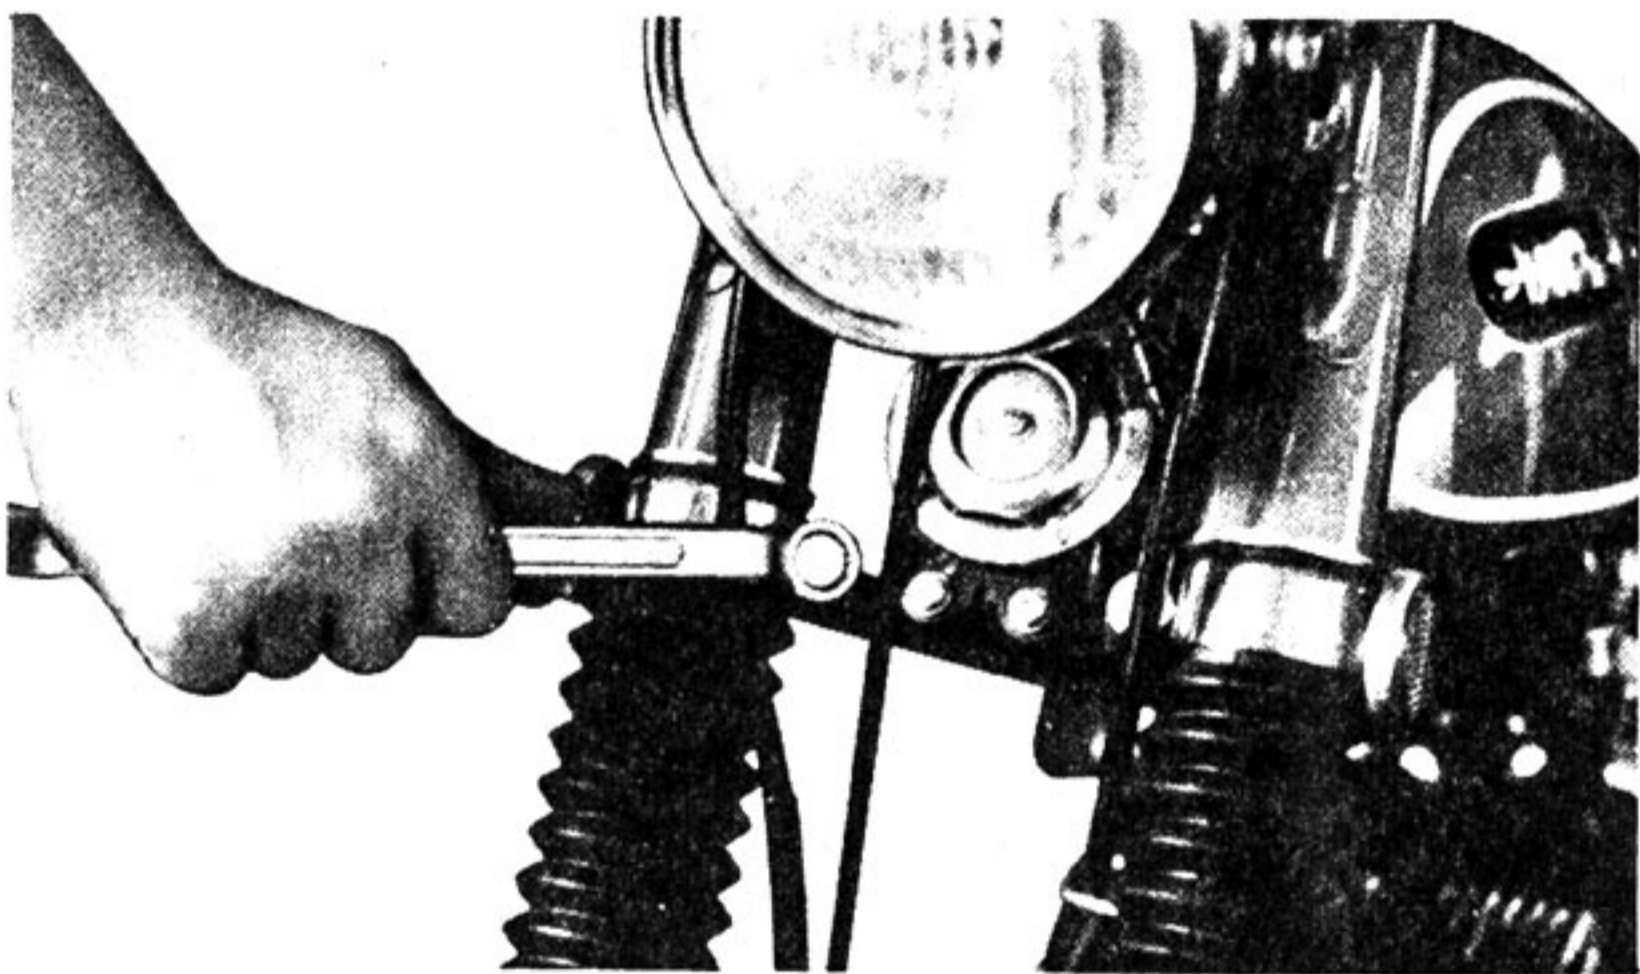

Fig. 5-7-1
- (1) Remove the front fender, and remove the inner tube cap bolt.
- (2) Loosen the inner tube clamping bolt on the underbracket. (Fig. 5-7-1)